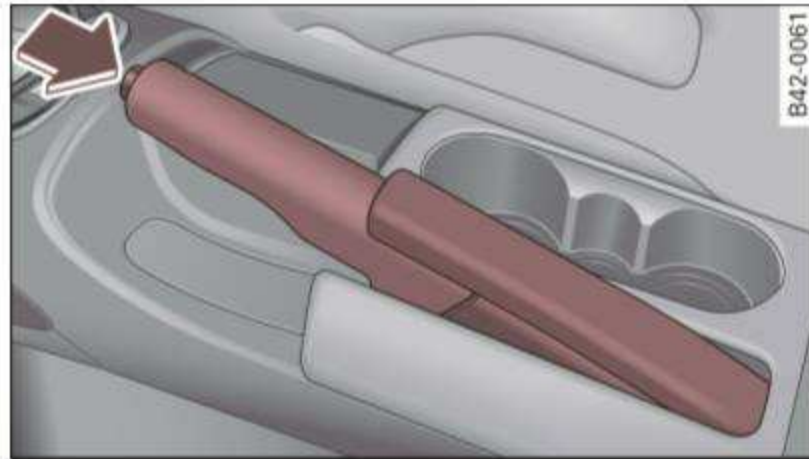

Fig. 64 Center console: Parking brake set
- Pull the parking brake lever up slightly *and* press the release button at the same time ⇒ fig. 64 - arrow -.